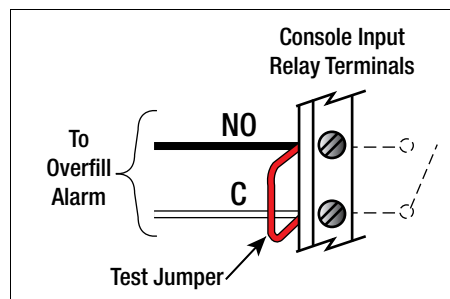

Figure 6. Overfill Alarm Test Jumper Console Connection
1. Turn power Off to the console and the Overfill Alarm. Put a jumper between the two Overfill Alarm relay connections in the console (see Figure 6).